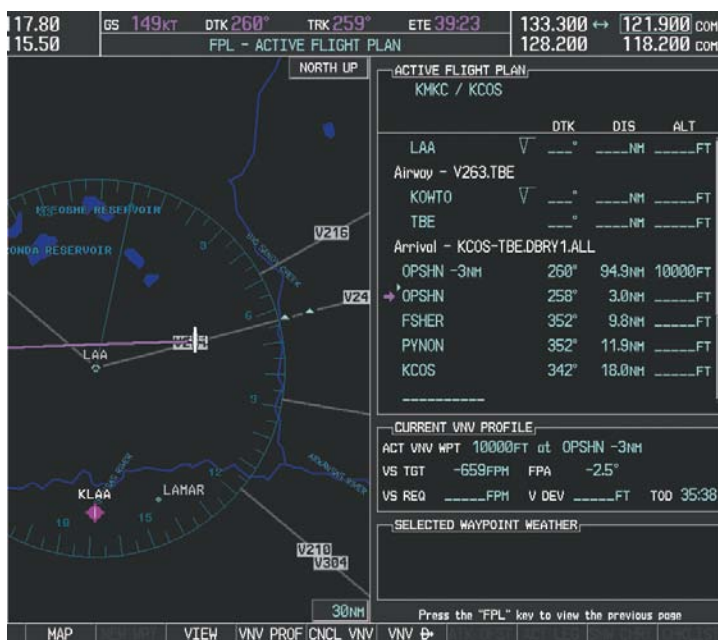

Figure 5-123 Direct-to Active
h) Press the **ENT** Key twice to activate the direct-to. Note, in Figure 5-123, the magenta arrow indicating the direct-to OPSHN after the offset waypoint for OPSHN. The preceding offset waypoint indicates the offset distance and altitude that were previously entered. The remaining waypoints in the loaded arrival procedure have no database specified altitudes, therefore, dashes are displayed. Keep the CDI centered and maintain a track along the magenta line to OPSHN.